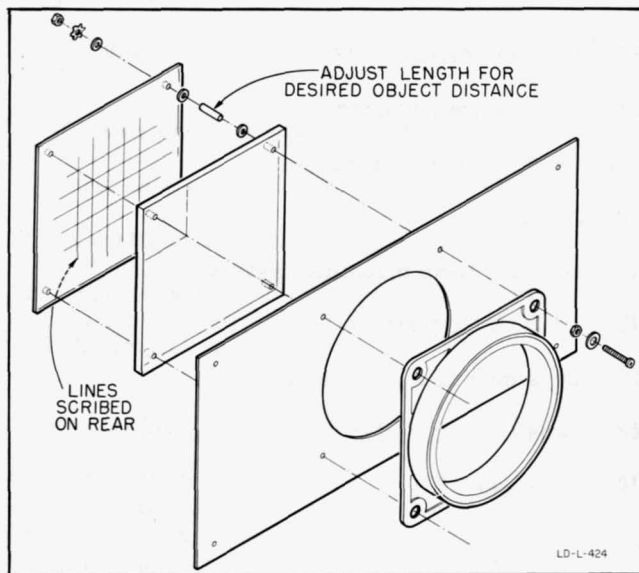

Figure 6-1. Special Focus Setup
a. The special focusing setup illustrated in figure 6-1 consisting of the following recommended parts:
- (1)  $\Phi$  196A-20 Tektronix Adapter
- (2) A 6 x 6 x 1/8 inch piece of clear plexiglass
- (3) A 6 x 6 x 1/16 inch piece of amber plexiglass that has lines scribed on it
- c. The special refocusing setup described in paragraph 6-9 and figure 6-1.
a. Mount the camera on the special setup described in paragraph 6-9 and figure 6-1. Make sure the camera nose is against the plexiglass. The 100-watt diffused light source should be mounted so it shines through the amber plexiglass.